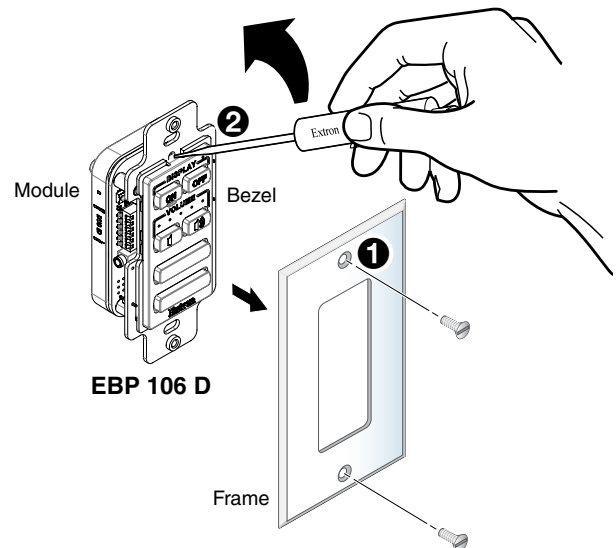

Figure 5. Releasing the Faceplate
1. To remove the frame, remove the two screws holding the frame to the module (figure 5, ❶).
2. To separate the bezel from the module, insert a small flat-bladed screw driver into the notch at the top of the bezel. Release the catch holding the bezel to the module (❷).